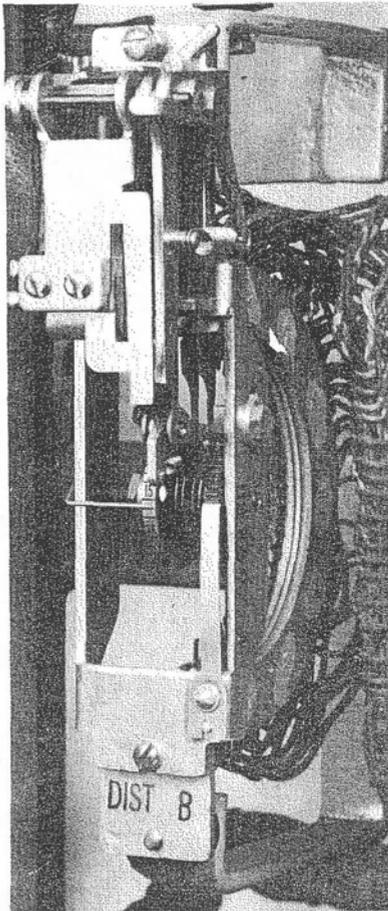

Figure 9. Distributor.
3.3 Distributor. The distributor switch (figure 9) determines which linefinder will operate next. When activated by the line equipment, the group relays send a "finder start" signal, through the distributor switch, to a preselected linefinder. After the finder has switched the calling line through to the first selector, the group relays step the distributor to the next idle linefinder.